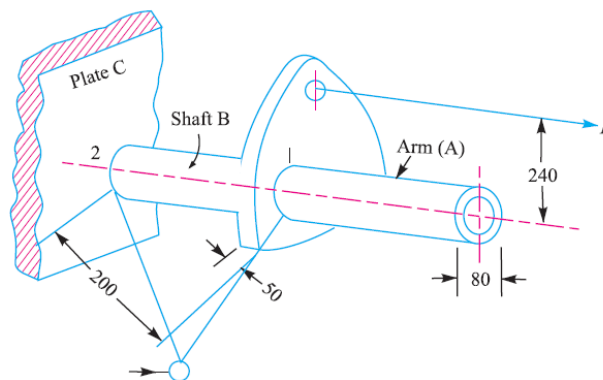

Figure 7
- Q8.** An arm A is welded to a hollow shaft at section '1'. The hollow shaft is welded to a plate C at section '2'. The arrangement is shown in Fig. 7, along with dimensions. A force $P = 15$ kN acts at arm A perpendicular to the axis of the arm. Calculate the size of weld at section '1' and '2'. The permissible shear stress in the weld is 120 MPa.